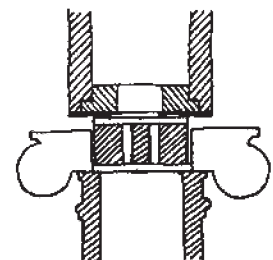

FIGURE 7-8
2. Use shims to lock the capital in place before securing with screws (Fig. 7-8).